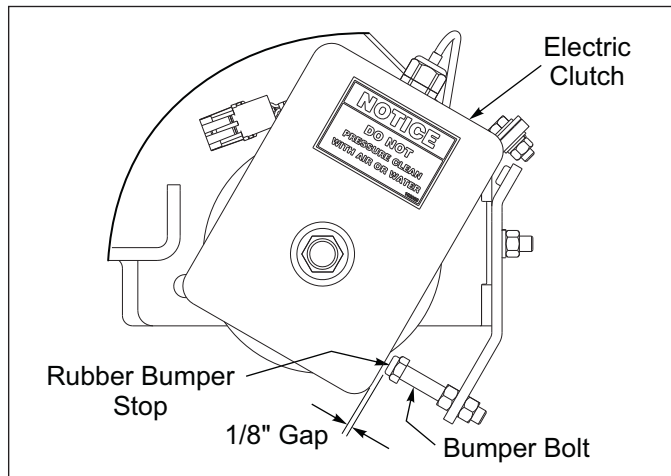

Figure 2-27: Clutch Detail
1. Verify that the Electric Clutch has 1/8" clearance between the Clutch Housing and Rubber Bumper Stop. Improper clearance may prevent the Clutch from engaging or disengaging. **See Figure 2-27.**